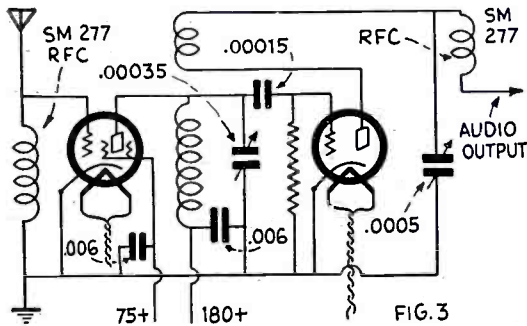

Fig. 3—Circuit for use with S-M 110 series coils with .00035 m.f. tuning condenser.
A. 1. The circuit is shown in Fig. 3. Tuning with such large condensers will be almost impossible below about 100 meters, even with a really high-ratio vernier dial. There is still another great disadvantage in the use of a .00035-mfd. tuning condenser; and that is loss of sensitivity. As a vacuum tube is a voltage-operated device and a large capacity in a tuned circuit reduces the voltage the reason is quite apparent.
John Steers, Bethlehem, Pa., inquires: Q. 1. Re the article on page 135 (August-September issue), can a Hammarlund 85-mh. radio-frequency choke be used at R. F. C. in Fig. 3?